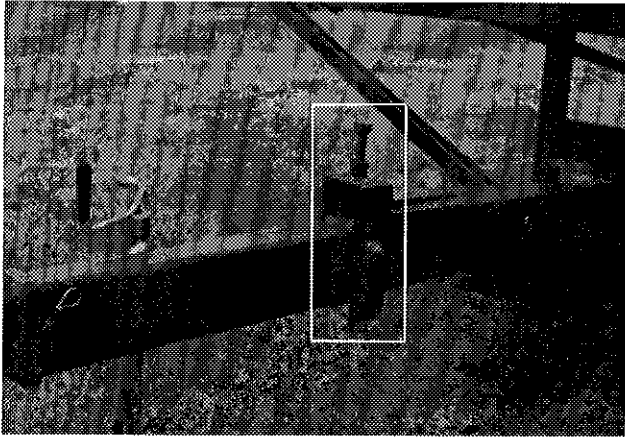

Figure 10
- 6) Use the level adjustment built-into the tongue to adjust the accumulator parallel to the ground and lock it in position. (Figure 10)